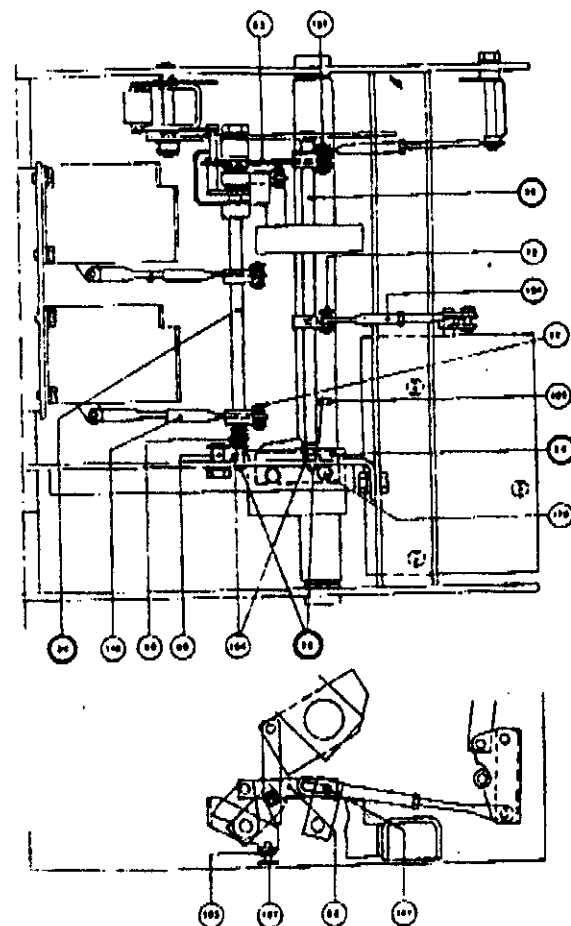

Fig. 34
- K. Limitswitch for Fault Indication (Fig. 34). The limitswitch for fault indication located on the underside of the element may be removed by